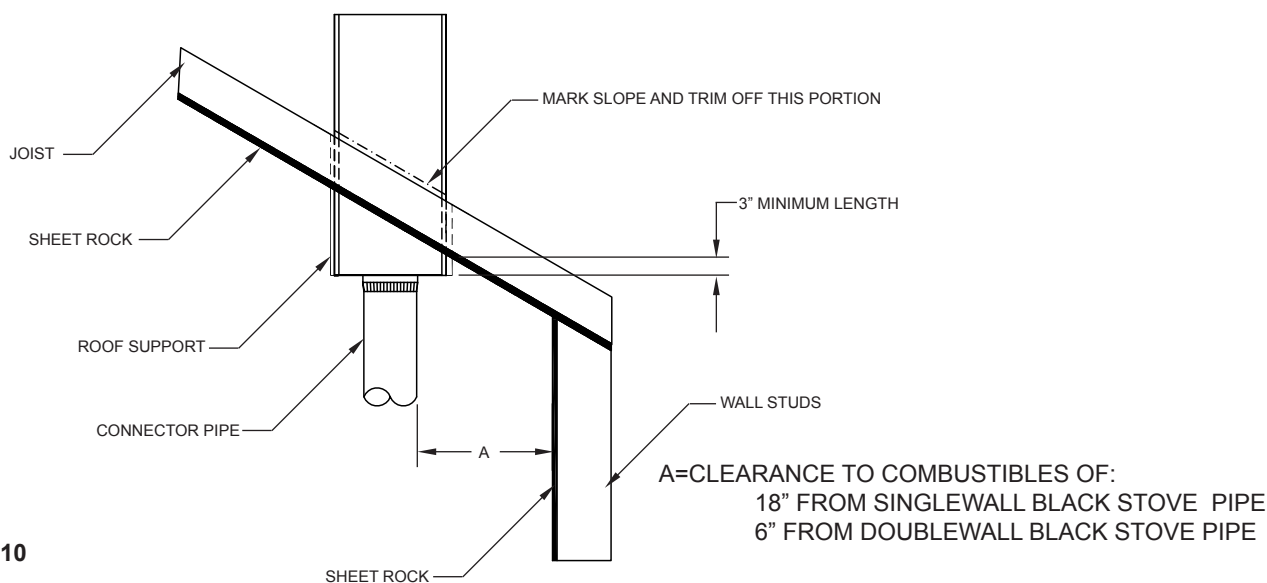

FIG. 10
3. Insert TGRS into framed opening so that the TGRS extends a MINIMUM of three (3) inches below the finished ceiling on the lower side of the installation.
4. With TGRS properly located, mark roof slope on the roof support (See **FIG. 10.**), Remove from opening and trim off excess metal.
5. Reinsert TGRS and secure in position using a minimum 1" roofing nail, four (4) each per side.